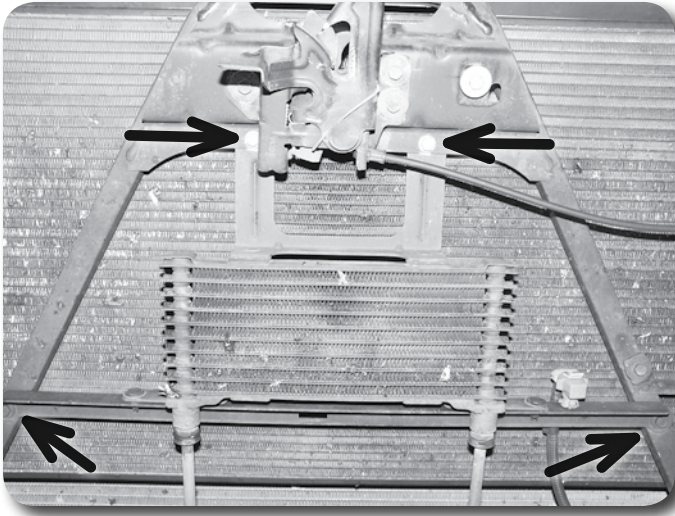

Figure 3
4. Remove the 4 bolts mounting the transmission cooler to the core support **Figure 3**. Pull the cooler forward, free from the core support mount. Save bolts.